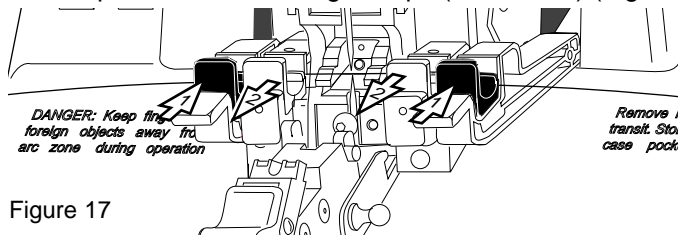

Figure 17
- a) Close the transfer arm clamps (# 1 arrows) onto the spliced fiber and then open the fiber coating clamps (# 2 arrows) (Figure 17).